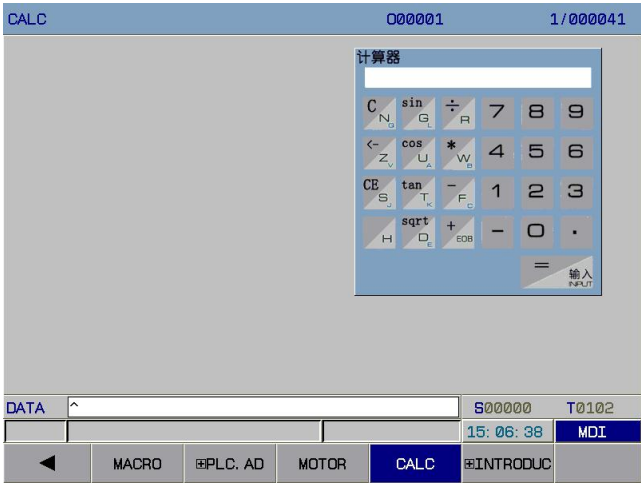

Fig.3-9-13
9. Calculator interface: On <Help> interface, press [Calculator] to enter the calculator interface, as shown in Fig.3-9-13